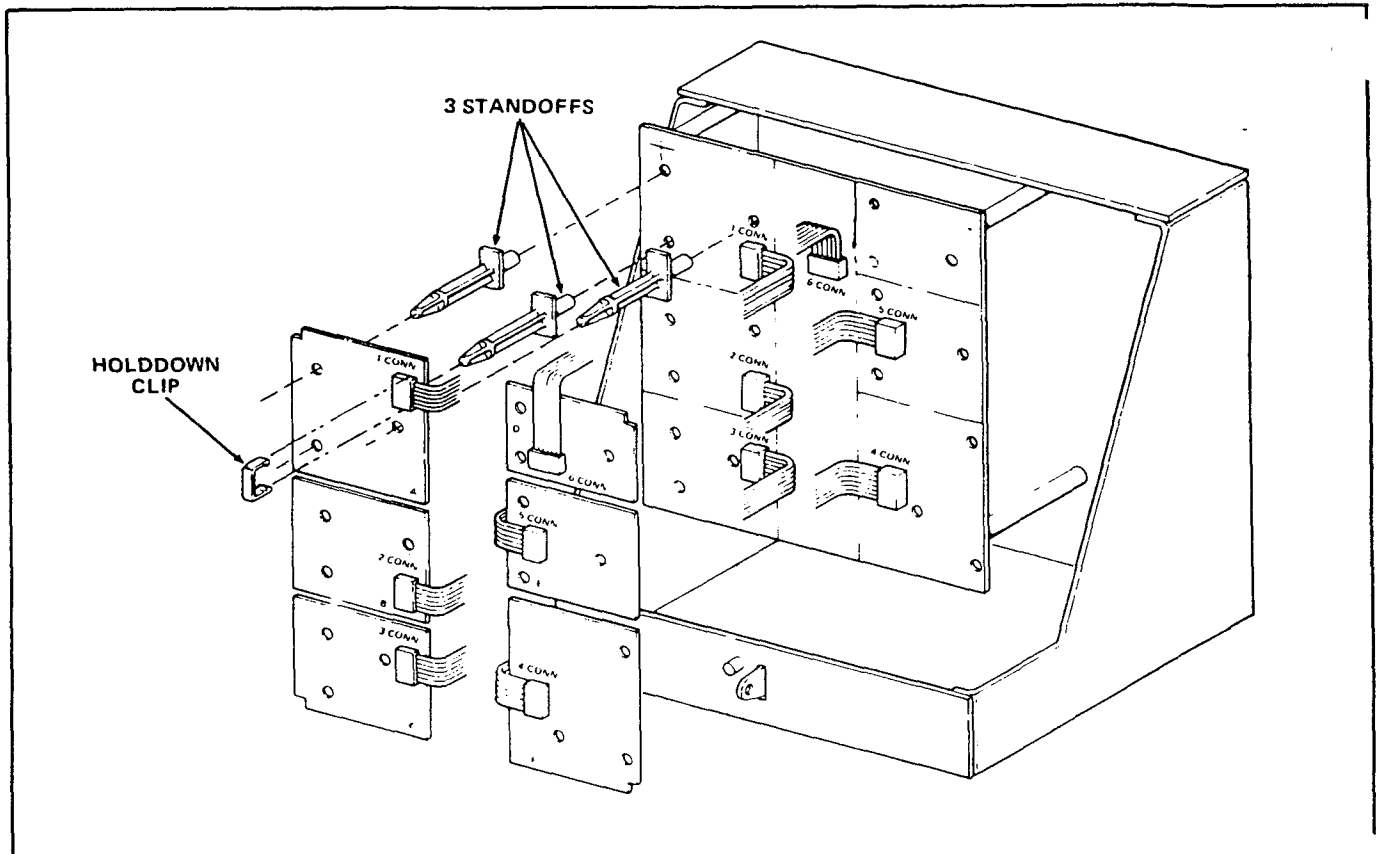

Figure 5. Modification PCB Location
1. Locate modification area on Regulator PCB as illustrated in Figure 5.